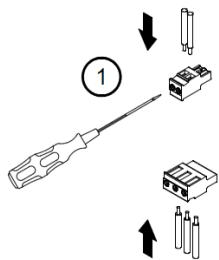
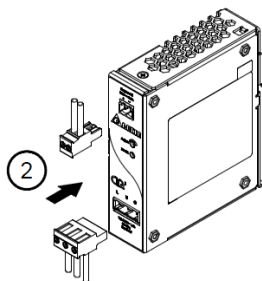

Fig. 3.1
Fig. 3.2
**CAUTION:** Must tighten wire to housing (Fig. 3.1) before plugging into the terminal block connection (Fig. 3.2).